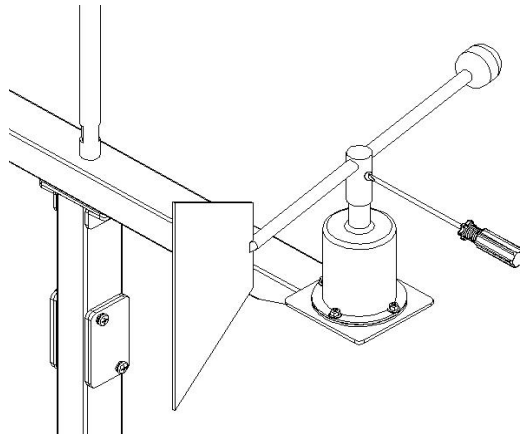

Fig 3-7 Securing wind vane on the cup
(2) Insert the wind vane into the rotating axle and secure the wind vane on the axle above the cup with a screwdriver. Then switch on the DC power for the Intersensor BOX and the detector monitoring software. Adjust the head of wind vane to the north direction and tighten the screws, as shown in Figure 3-7.